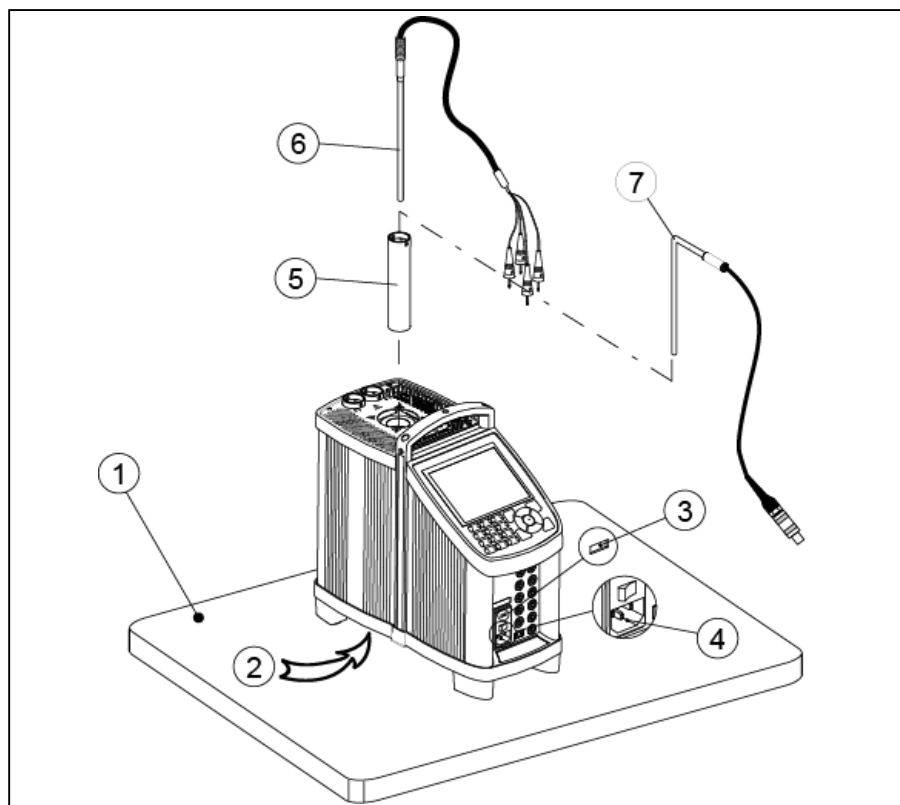

Fig. 1a – This image shows the RTC-model
Follow the instructions below before using the calibrator (cf. fig. 1a)
3. Check that the voltage setting, shown on the power control switch (pos. 3), is identical to the mains voltage used.
4. Check that the earth connection for the instrument is present and attach the cable below the power control switch (pos. 4).
5. Select an insertion tube (pos. 5) with a boring diameter matching the sensor (pos. 6) to be calibrated. Ensure that both the well and the insertion tube are clean. Insert the tube into the well.
6. Place the sensor (pos. 6) and the reference sensor – if available (pos. 7) in the insertion tube (pos. 5) as shown in fig. 1a.